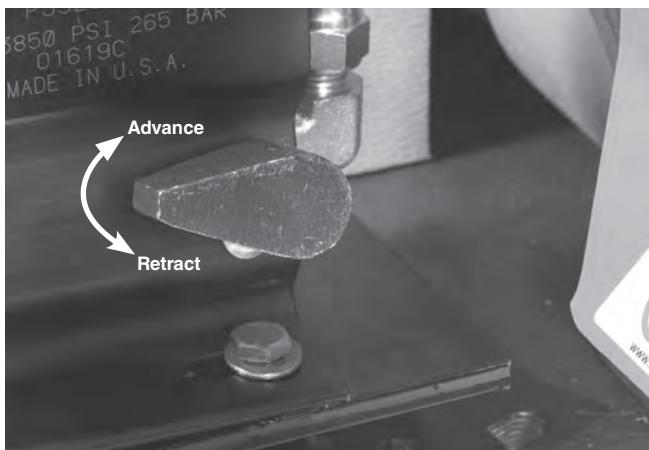

Figure 9 – Pump Release Lever Position
- To retract the groove roll, move the pump lever to the retract position. See *Figure 9*.